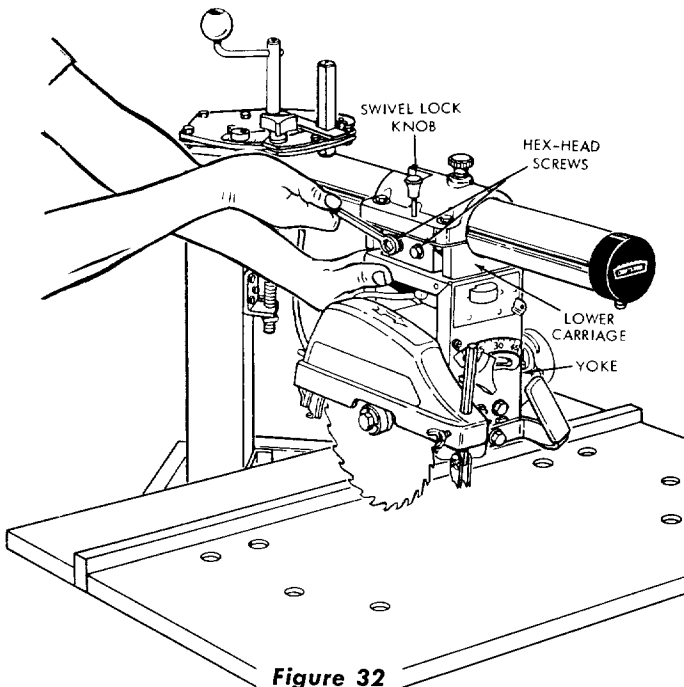

Figure 32
- (1) Loosen the two hex head screws (figure 32), on left-hand side of lower carriage.
- (3) Tighten the two hex-head screws (figure 32) and recheck with the square to make sure that tightening screws did not alter the setting. More than one trial may be required to obtain an accurate setting.